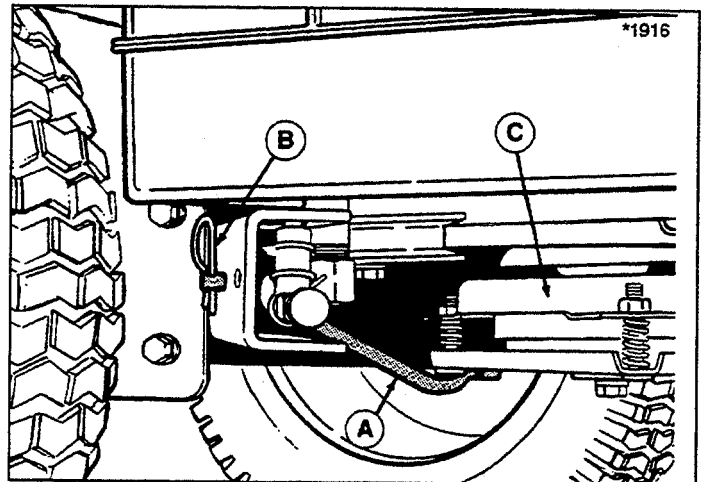

Figure 41. Anti-Spin Rod
- Remove anti-spin rod from frame and PTO. See figure 41.